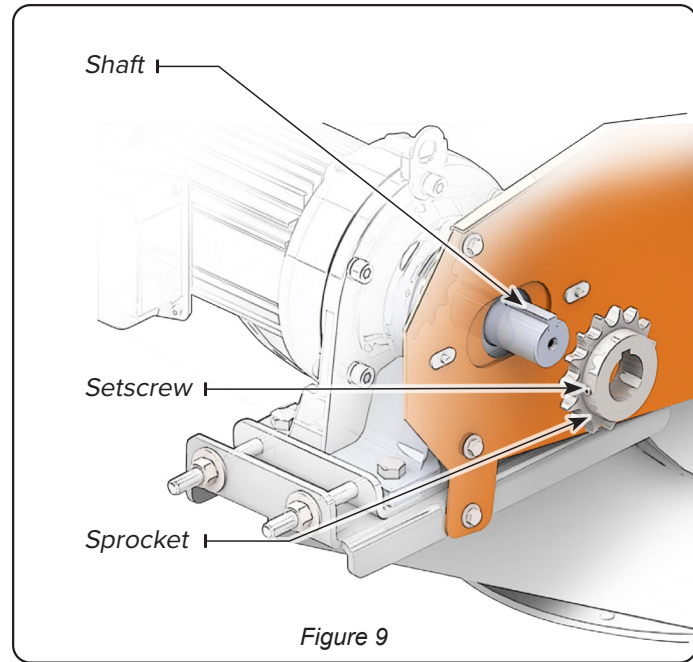

Figure 9
- 5. Remove the sprocket (see Figure 9).